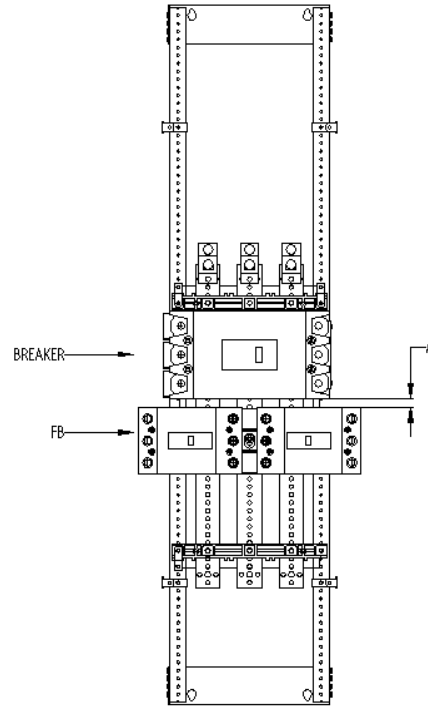

Figure 4. Distance between breakers
12. If FB breaker has to be installed after SG or SF/TFJ or SE/TED/TQD as shown in Figure 4 then gap between the breakers (dim A) has to be followed as mentioned in Table 2. Replace the subsequent blank filler of dead front with FB filler plate given in kit using steps 9 to 11.